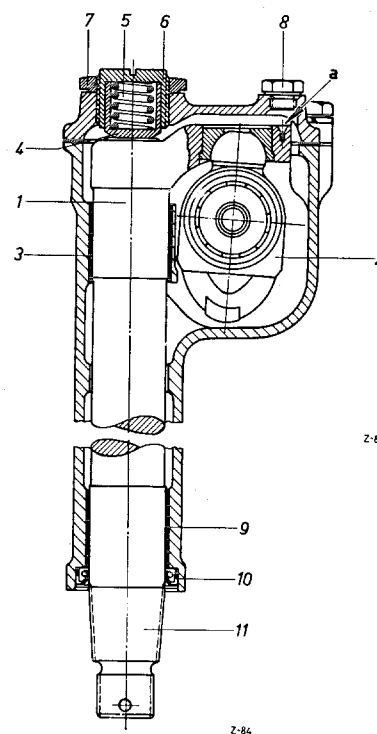

Fig. 46—6/2
**Note:** On current models, a second sealing ring (10) is installed at the bottom between the steering worm and the cable guide tube (see Fig. 46—4/18).